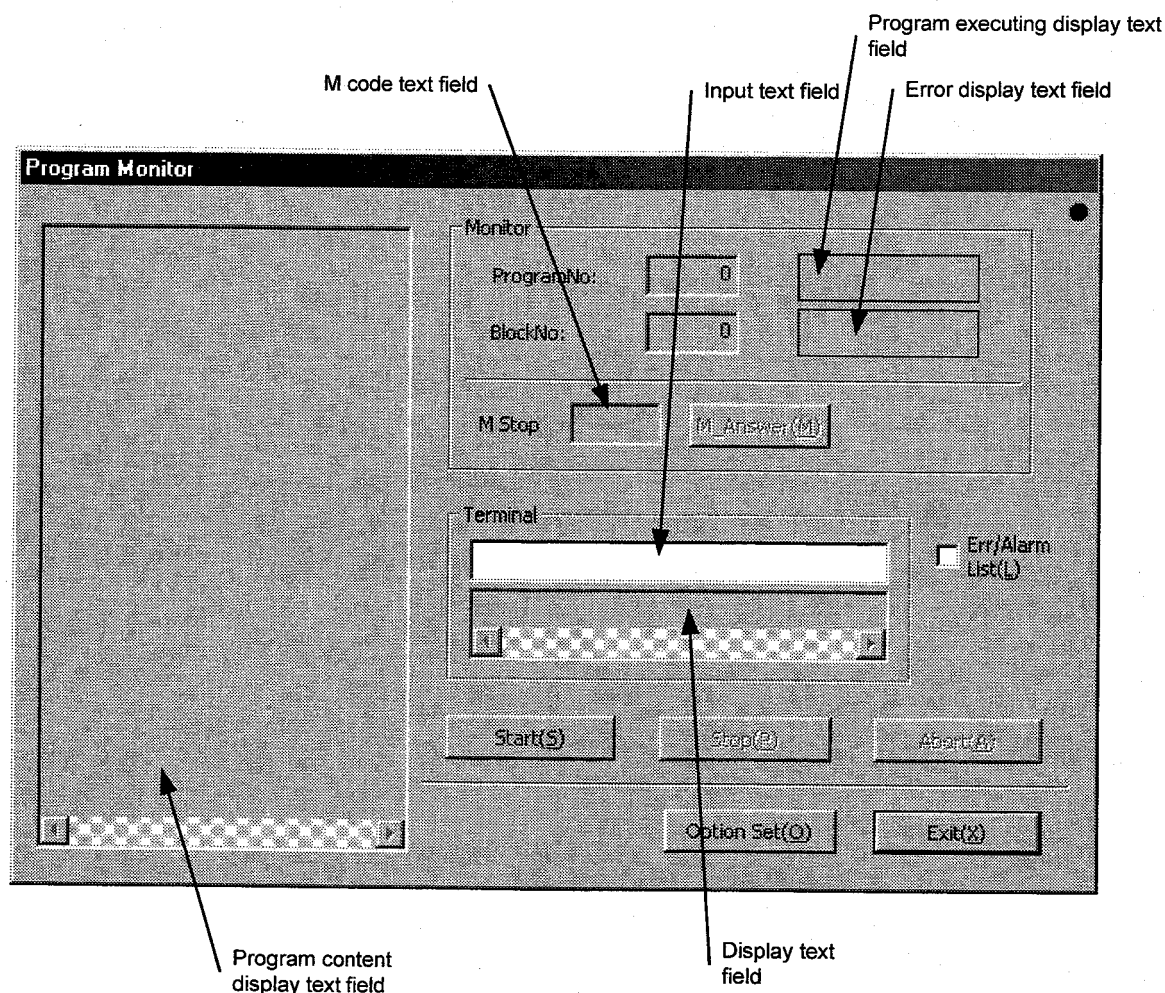

Figure 7.40 "Program Monitor" dialog box.
- 3) Click "OK" to make the setting status valid and return to the "Program Monitor" dialog box. If you click "Cancel," the PC utility returns to the "Program Monitor" dialog box without making the setting status valid (see Figure 7.40).